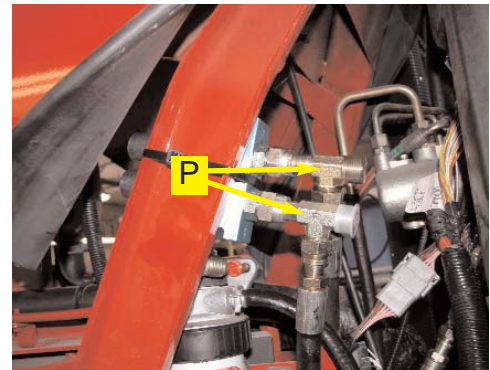

Figure 4d. Steering lines at counter-balance valve.
- f. Reconnect the steering lines to the branches of the run tees (**P**) on the counter-balance valve. (Figure 4d.)